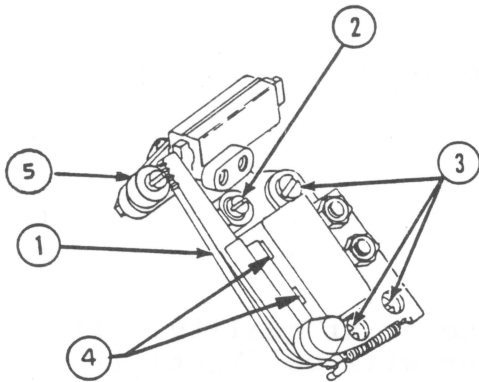
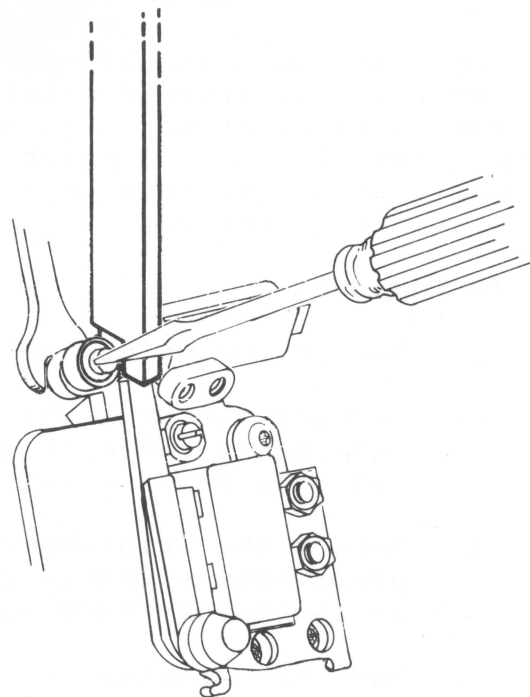

FIGURE 8
FIGURE 11
1. The front stop (Figure 8, #2) is an eccentric screw held in place by a locking nut. With a 3/16 inch wrench on the nut and a flatblade screwdriver in the eccentric, loosen the eccentric.
3. With a 3/16 inch wrench and a screwdriver, loosen the lock nut on the rear stop (Figure 8, #5; see Figure 11).
5. With a flatblade screwdriver, loosen the three armature penetration screws (see Figure 8, #3). **NOTE:** To reach the top screw, hold the print hammer's release lever out of the way.